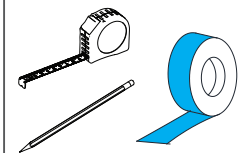

**Fig 3**
3. Measure the width of the rear wall in the shower or tub opening, from corner to corner, at the top, middle and bottom. Record these measurements as W1, W2 and W3. **Fig 3**